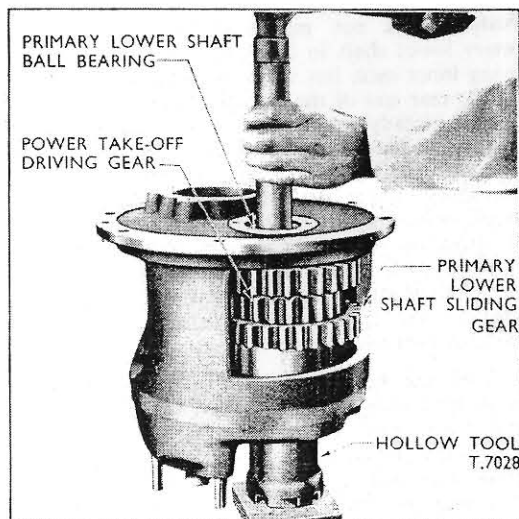

Fig. 14
14. Rest the housing on its front face and place the adaptors T.7015-2/a within the main lower shaft bearing bore, with the feet of the adaptors located behind the primary lower shaft roller bearing inner race. With the top ends of the adaptors pressed together, lower the Main Tool T.7015 over the adaptors and rest it on the face of the primary lower shaft sliding gear. The tool frame must be positioned so that the pillars are approximately in line with the open sides of the adaptors. Move the top ends of the adaptors apart and place the thrust pad T.7015-2/d in the adaptor bore, with the two arms of the thrust pad located between the split halves. The dimpled end of the thrust pad should be directly below the centre pressure screw. Lift the tool until the base ring is located under the flanged ends of the adaptors. Screw in the centre pressure screw and draw the roller bearing inner race from the end of the primary lower shaft. (See Fig. 14.)